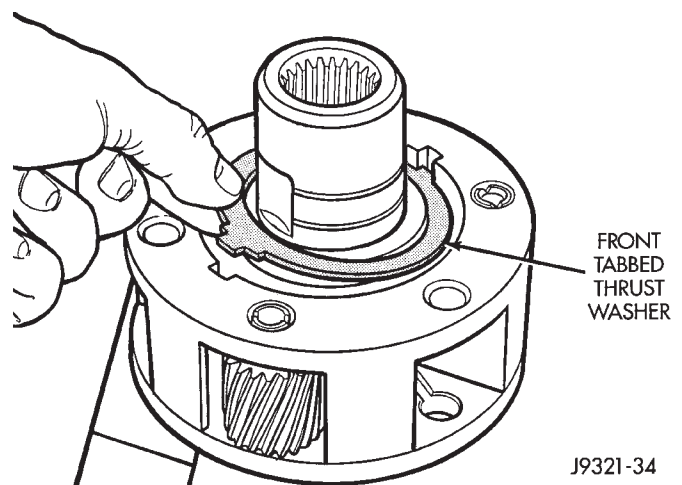

Fig. 37 Front Tabbed Thrust Washer Removal
(3) Remove front tabbed thrust washer (Fig. 37).